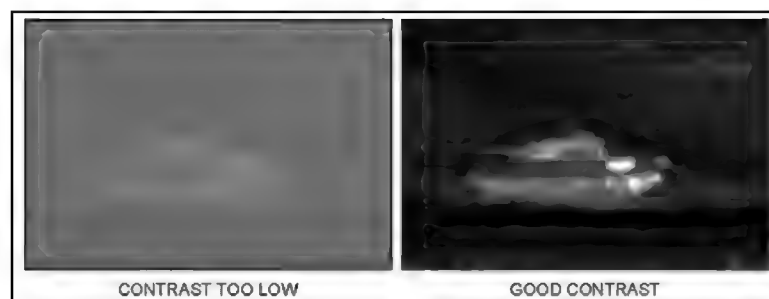

Figure E-22. Low versus good contrast adjustments.
- Contrast too low (Figure E-22). When contrast is too low, all objects are adjusted into the shades of green in the middle away from the two extremes, so nothing appears black or bright green.